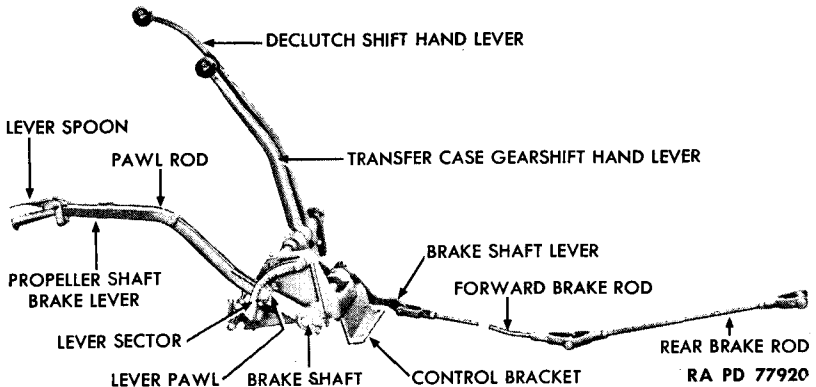

Figure 79 - Propeller Shaft Brake Lever and Linkage
a. Description (fig. 79). The lever is located in cab beside operator's seat. It consists of a solid bar which pivots on a shaft beneath the floor board, and is held in position by a lever spoon, pawl rod, and lever pawl which engages with a lever sector.
b. Removal (fig. 79). Loosen cap screw which clamps brake lever to brake shaft. Remove the two cap screws and lock washers which secure lever sector to control bracket. Remove lever, pawl rod, and lever sector as a unit, and remove Woodruff key from shaft.
c. Installation (fig. 79). Insert Woodruff key in brake shaft, and position brake lever on brake shaft and lever sector to control bracket. Install two cap screws and lock washers which secure lever sector to bracket, and tighten cap screw which secures lever to brake shaft.
a. Description (fig. 79). The linkage consists of two brake rods, one located between brake shaft lever and brake transfer lever and one between brake transfer lever and disk brake cross shaft brake lever. Action of the brake lever is transmitted through the brake rods to brake shoes. **CAUTION:** *Although linkage is adjustable, it must not be used as a method for adjusting brake.*
b. Removal (fig. 79). Remove the cotter pin and clevis pin from each end of both rods, and remove rods. Loosen cap screws which secure transfer lever, the four clevis levers, and the shaft lever, and remove levers.
c. Installation (fig. 79). Position levers on respective shafts, and tighten cap screws which secures each. Position rods between brake shaft, brake transfer shaft, and brake cross shaft; install clevis pin and cotter pin at both ends of each.